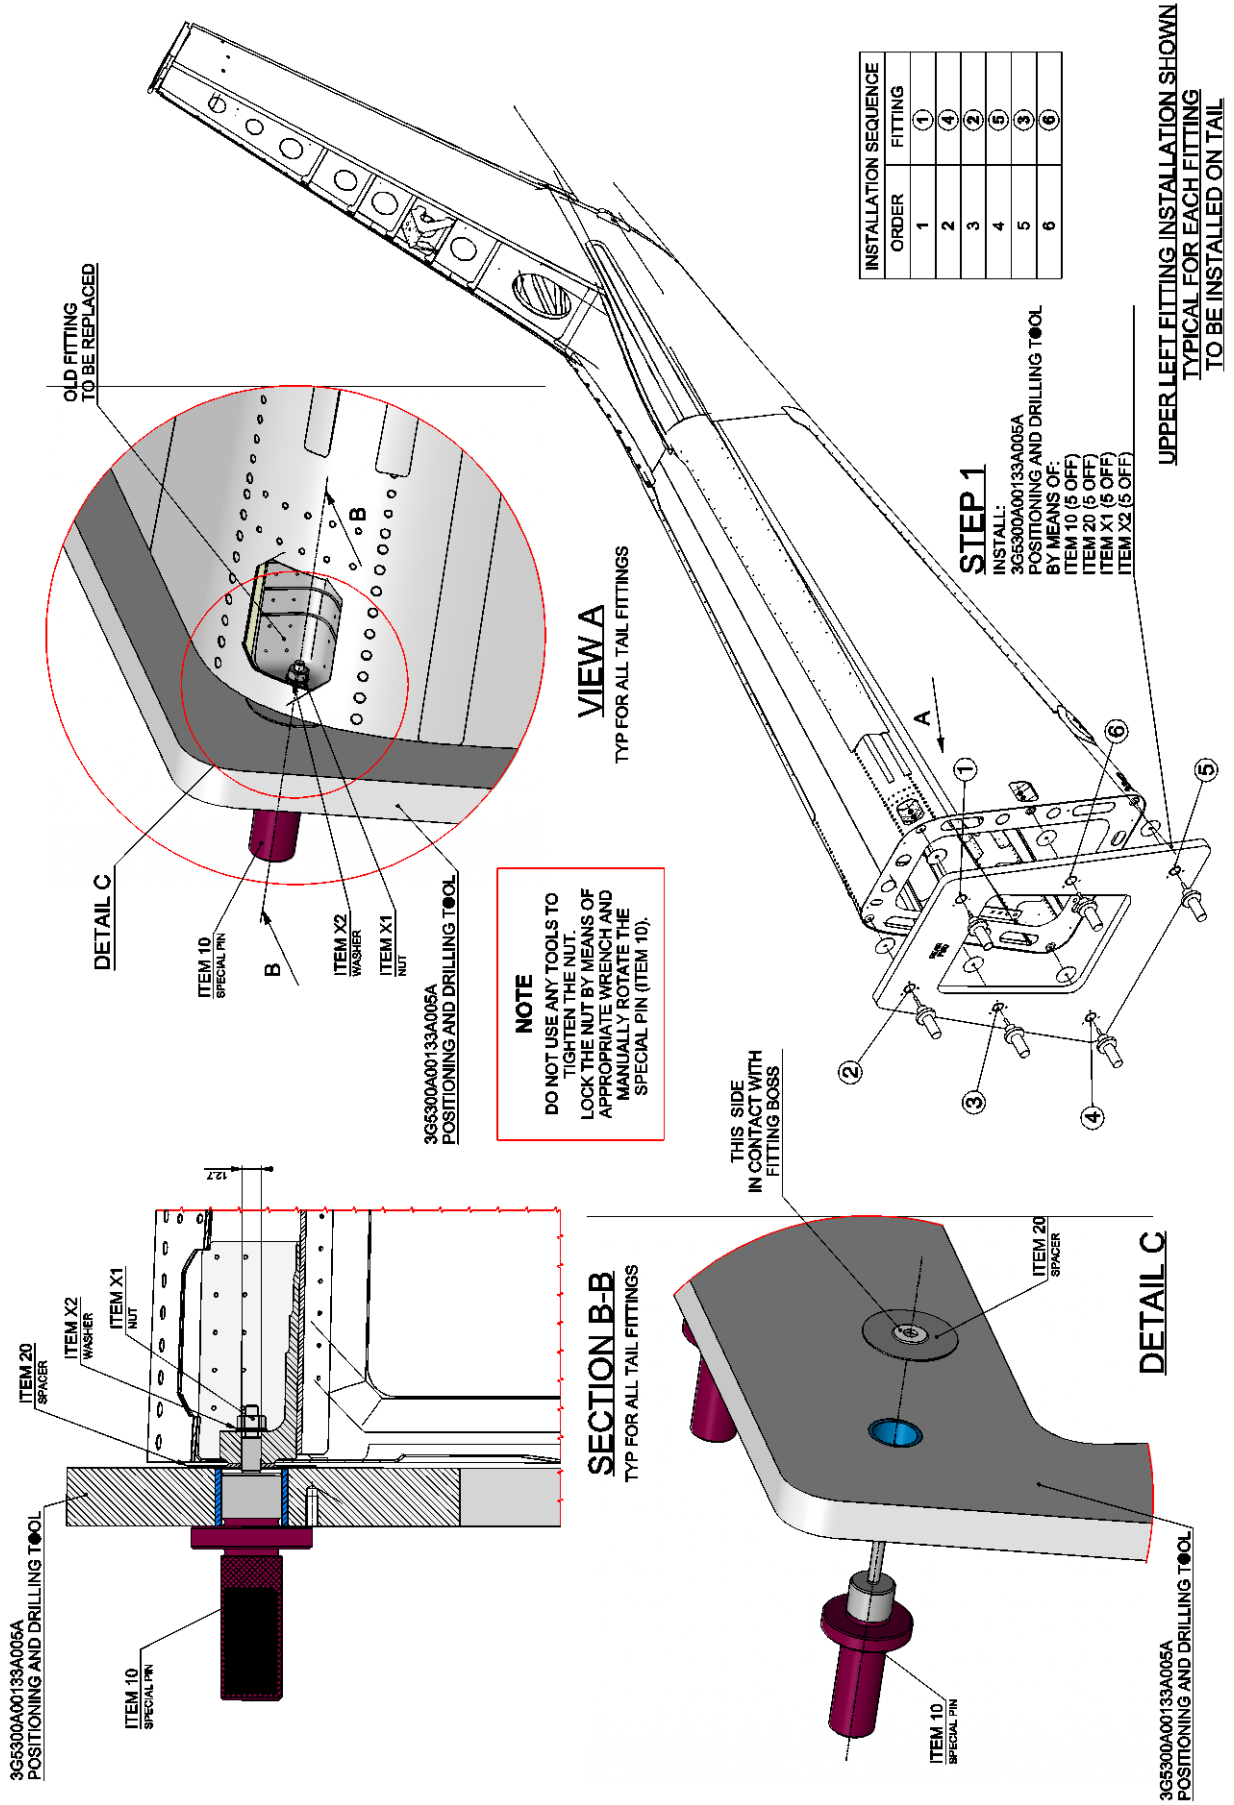

Figure A2
1. With reference to Figure A2, install the positioning and drilling tool kit P/N 3G5350A00133A005A on tail assy securing the plate in the points 2-3-4-5-6 by means of n°5 special pins (ITEM 10), n°5 spacers (ITEM 20), n°5 washers (ITEM X2) and n°5 nuts (ITEM X1).
4. With reference to Figure A2, re-install the positioning and drilling tool kit P/N 3G5350A00133A005A on tail assy securing the plate in the points 2-3-4-5-6 by means of n°5 special pins (ITEM 10), n°5 spacers (ITEM 20), n°5 washers (ITEM X2) and n°5 nuts (ITEM X1).